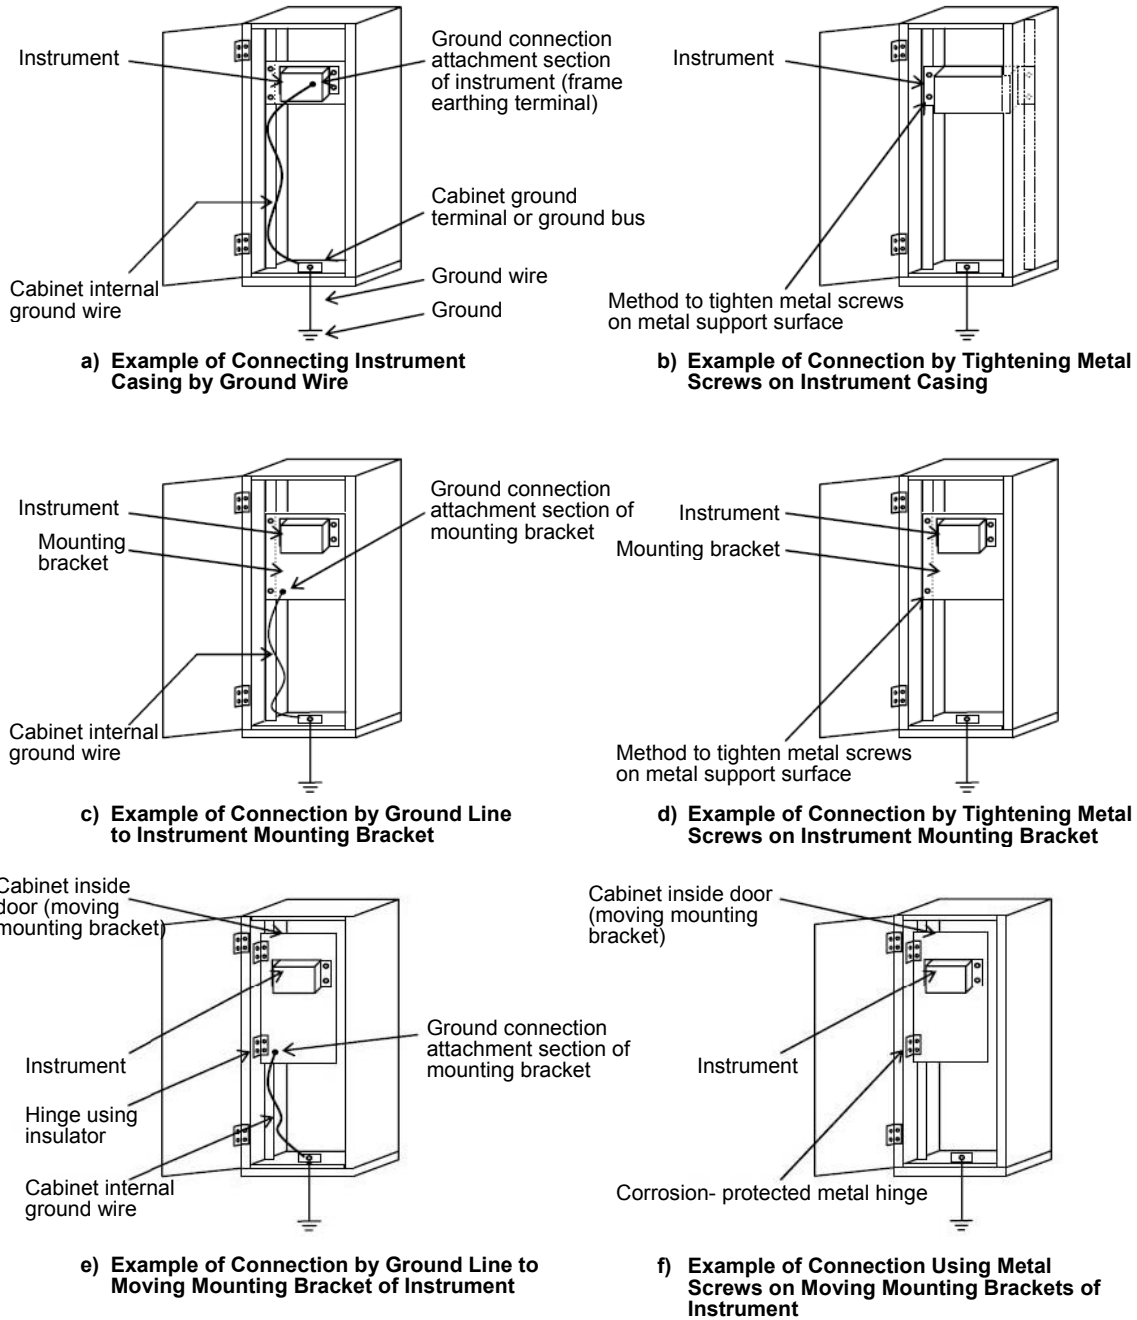

Figure 5: Example of grounding instruments and instrument mounting brackets
- When ground connection attachment sections (such as frame grounding terminals) are available on the casings of cabinet attached instruments requiring grounding for safety and for performance guarantee, connect the ground connection sections on instrument casings to the grounding terminal or the grounding bus of the cabinet using cabinet internal grounding wire. Figure 5 a) shows an example.
- When ground connection attachment sections (such as frame grounding terminals) are not available on the casings of cabinet attached instruments, and when the casings of cabinet attached instruments are equipped with metal support surfaces, the connection made by the metal screws can be considered to provide adequate electrical connection to the cabinet, making grounding by dedicated wires unnecessary. Figure 5 b) shows an example.
- When the casings of cabinet attached instruments are not connected with the cabinet grounding terminals or grounding buses using cabinet internal grounding wire but instead are connected to the instrument mounting brackets, and when the mounting brackets are not equipped with metal support surfaces, connect the mounting brackets and the cabinet grounding terminals or the grounding buses by cabinet internal grounding wire. Figure 5 c) shows an example.
- When the casings of cabinet attached instruments are not connected to the cabinet grounding terminals or grounding buses using cabinet internal grounding wire but instead are connected to the instrument mounting brackets, and when the mounting brackets are equipped with metal support surfaces, the connection made by the metal screws can be considered to provide adequate electrical connection to the cabinet body, making grounding by dedicated wires unnecessary. Figure 5 d) shows an example.
- When the casings of cabinet attached instruments are not connected to the cabinet grounding terminals or grounding buses using cabinet internal grounding wire but instead are connected to the moving instrument mounting brackets, and when conduction cannot be secured due to hinges using isolation, connect the moving mounting brackets and the cabinet grounding terminals or the grounding buses by cabinet internal grounding wire. Figure 5 e) shows an example.
f) When the casings of cabinet attached instruments are not connected to the cabinet grounding terminals or grounding buses using cabinet internal ground wire but instead are connected to the moving instrument mounting brackets, and when conduction can be secured through metal hinges, grounding by dedicated wires is unnecessary. Figure 5 f) shows an example.